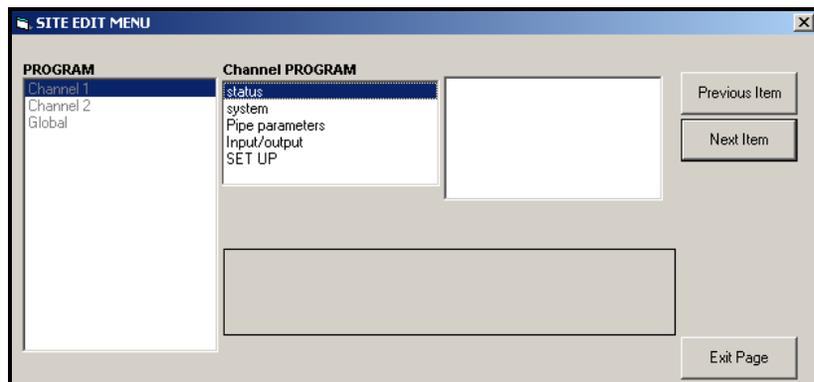

Figure C-10: The *Site Edit Menu* Window
3. To enter data into the user program, double-click on the *Site Edit Menu*. The window appears similar to Figure C-10 below.
4. To enter a particular menu (Channel 1, Channel 2, or Global), highlight and double-click on the desired menu in the left pane. For example, clicking on Channel 1 in Figure C-10 above opens the list of options shown in the center pane.
PanaView returns to the Channel PROGRAM menu shown in Figure C-10 on page C-9. Proceed to the System option.
- If you are not using MASS FLOW, PanaView returns to the Channel PROGRAM window shown in Figure C-10 on page C-9. Proceed to the Pipe option.
PanaView returns to the Channel PROGRAM window shown in Figure C-10 on page C-9. Proceed to the Pipe option on the next page.